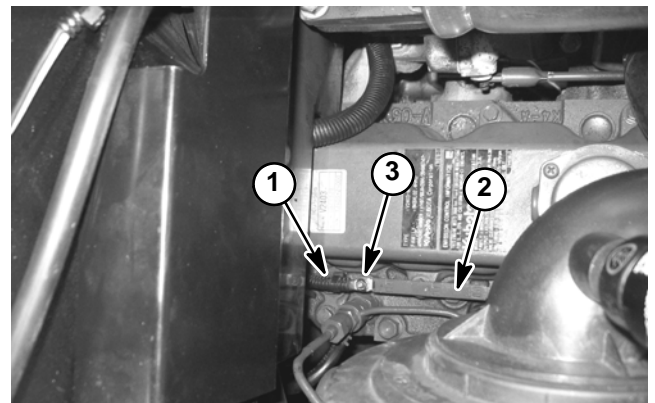

Figure 11
- B. The glow plug lead (Fig. 11).
C. The glow plug (Fig. 11).